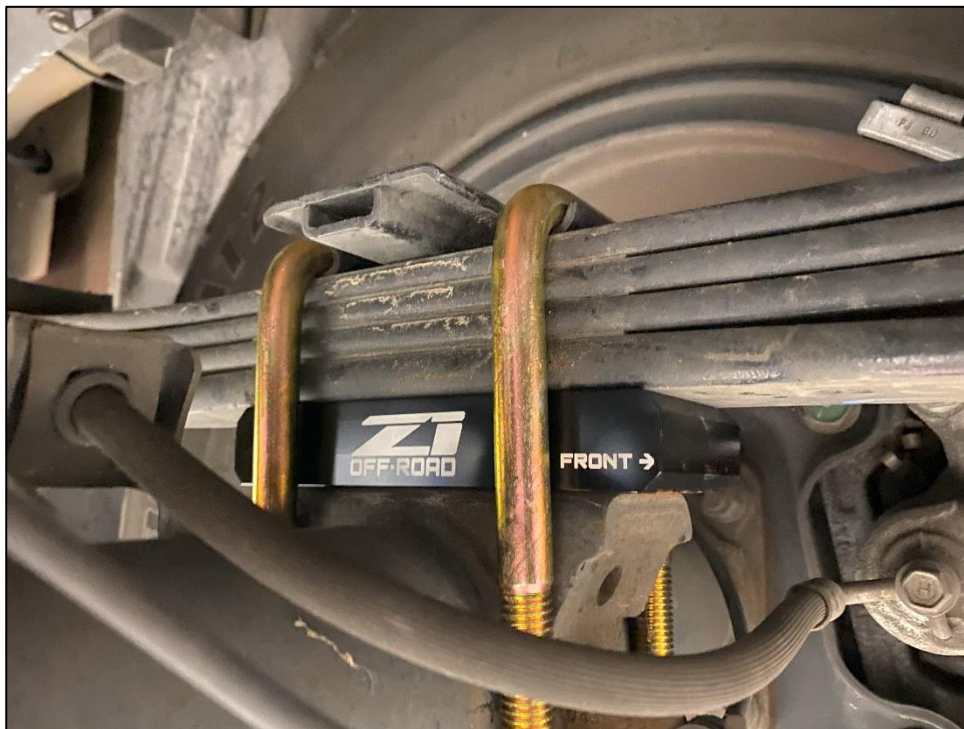

Figure 10
15. Repeat Steps 8-14 for the other side of the vehicle. *Figure 10.*